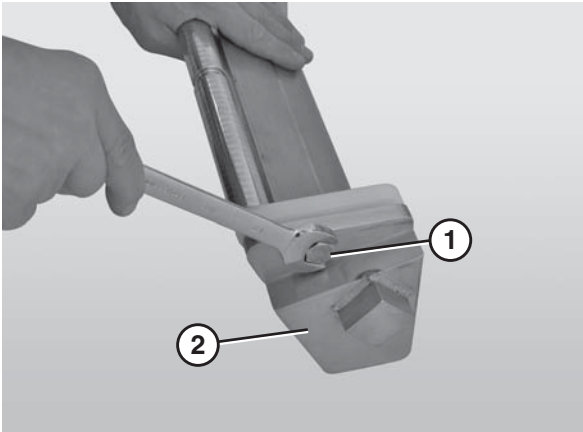

Figure 72
4. Use a 17 mm wrench to remove both pilot nose bolts (Figure 72, item 1) from the nose bar weldment (Figure 72, item 2).